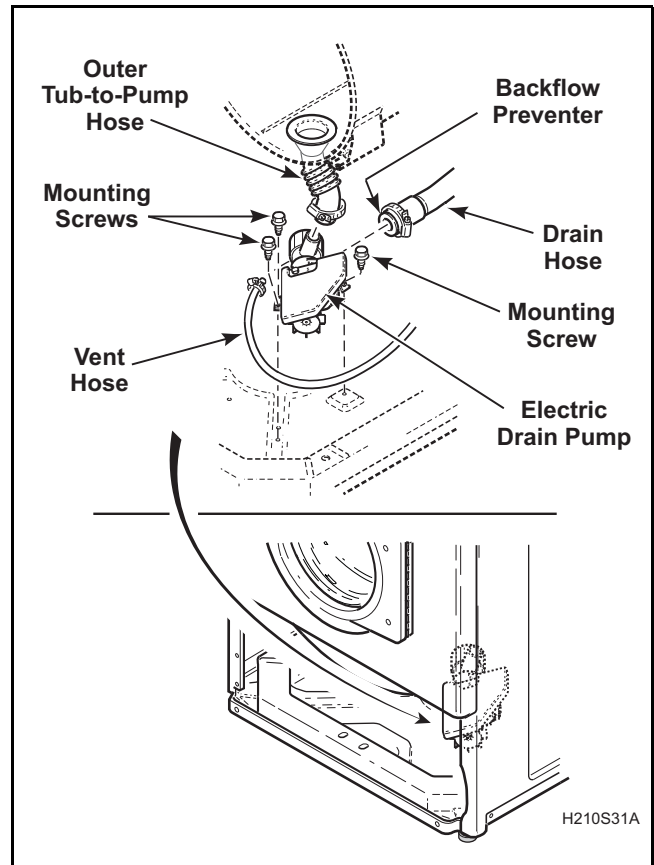

Figure 27
- Loosen hose clamps and remove three hoses connected to electric drain pump (outer tub-to-pump hose, vent hose and drain hose). Refer to *Figure 27*.
- Remove 3 mounting screws holding pump to base and remove pump out through front of washer. Refer to *Figure 27*.